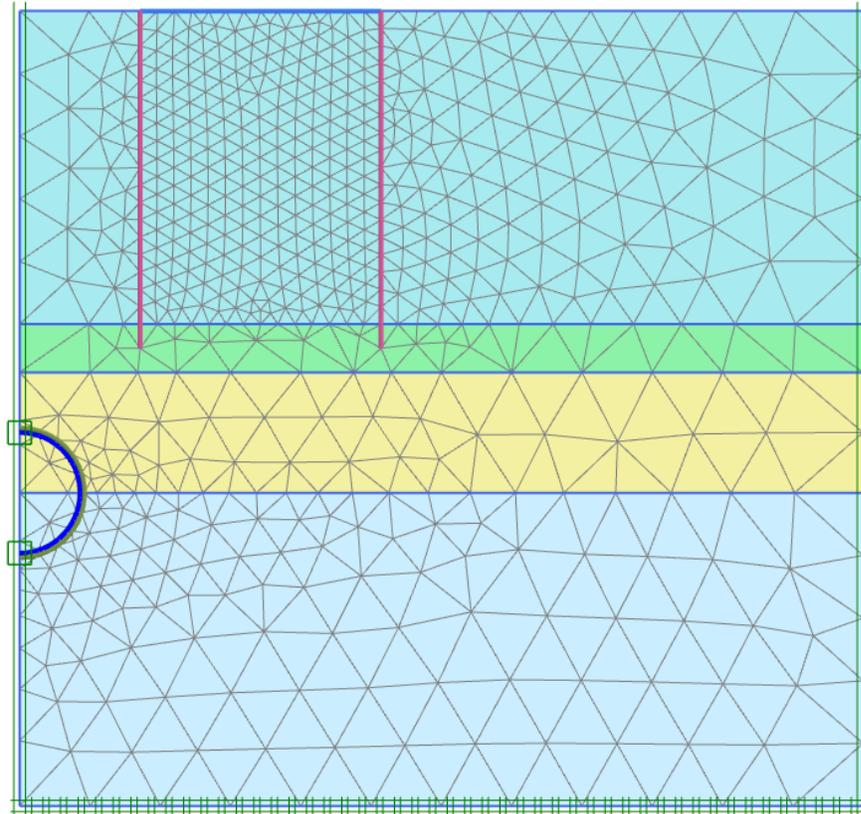

Figure 61: The generated mesh
3. Click the **View mesh** button  to view the mesh as shown in Figure 61 (on page 83) .